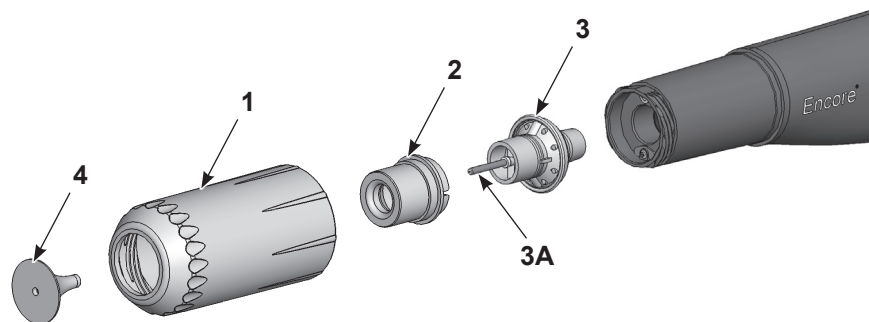

Figure 9 Changing Optional Deflectors and Conical Nozzles
1. See Figure 9. To change the deflector (4), gently pull it off the electrode assembly (3). If only changing the deflector, install the new one on the electrode assembly, being careful not to bend the electrode wire.
2. To change the entire nozzle, unscrew the nozzle nut (1) counterclockwise.
3. Pull the conical nozzle (2) off the electrode assembly.
**NOTE:** It is not necessary to remove the electrode assembly (3) from the gun. If the electrode assembly comes out of the gun when you pull the nozzle off, clean it with compressed air before re-installing it. Do not bend the electrode. The electrode holder (3A) screws into the assembly. Both the holder and the electrode are replaceable.